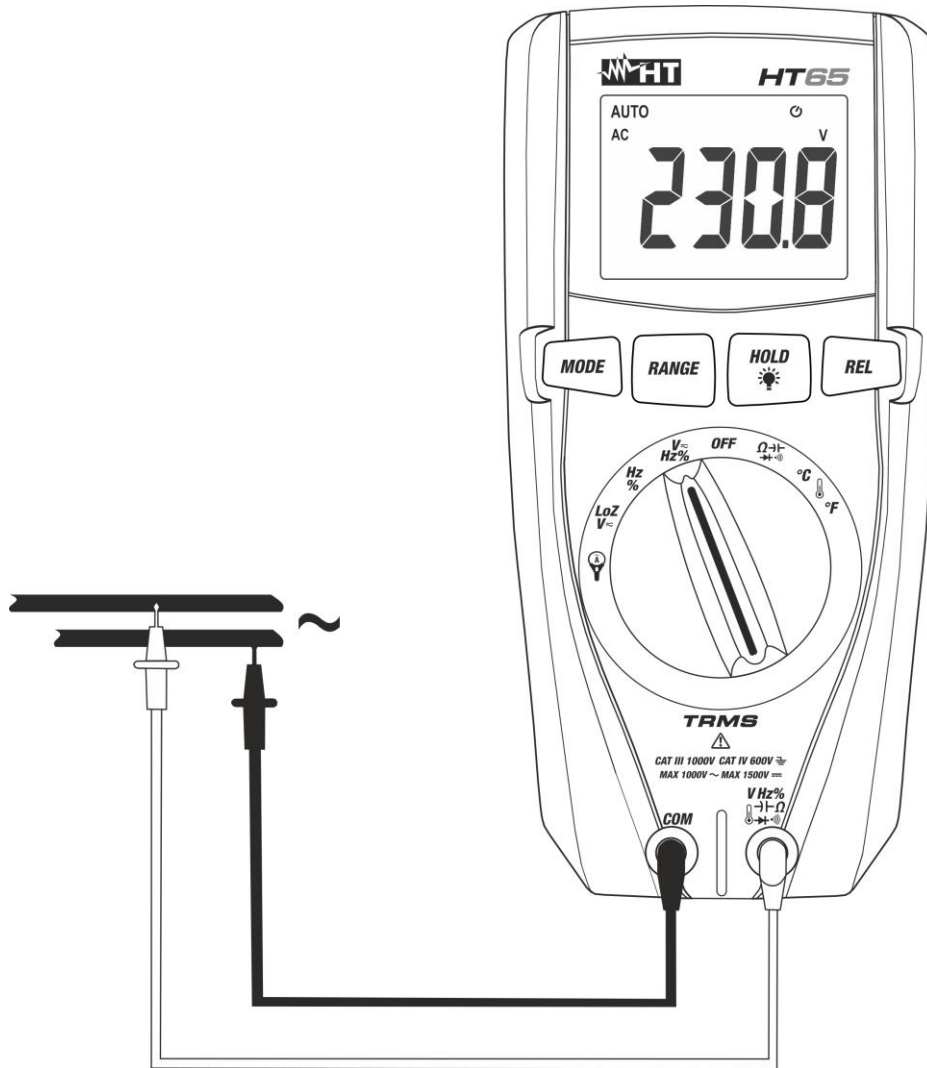

Fig. 3: Use of the instrument for AC voltage measurement
3. Position the red lead and the black lead respectively in the spots of the circuit to be measured (see Fig. 3). The display shows the value of voltage.